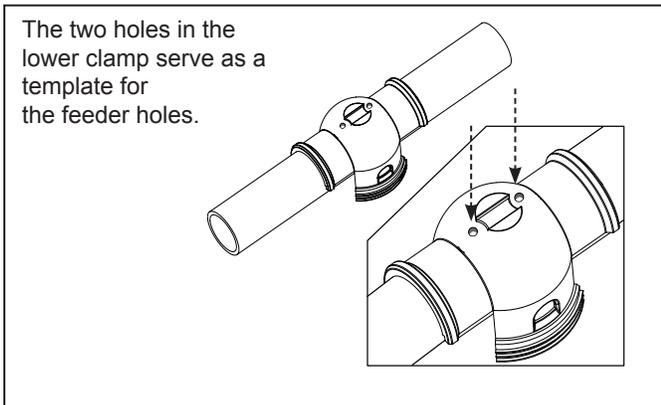

Figure 6. Marking Pipe for Drilling Feeder Holes
- Invert the lower clamps and place on the pipe. Mark the pipe for drilling the feeder holes (see Figure 6).